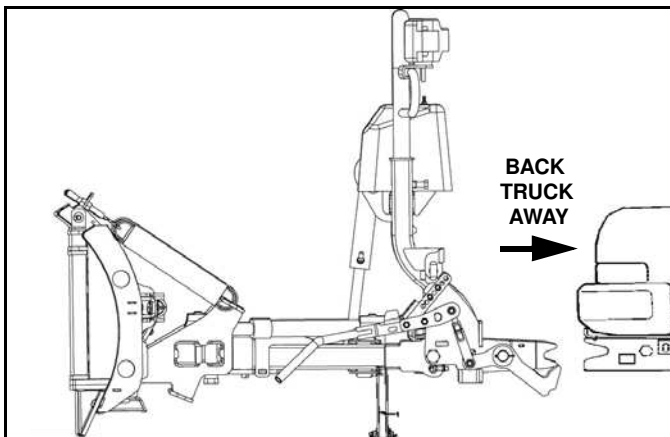

Figure 1-52
8. Back truck away from plow. (See Figure 1-52).